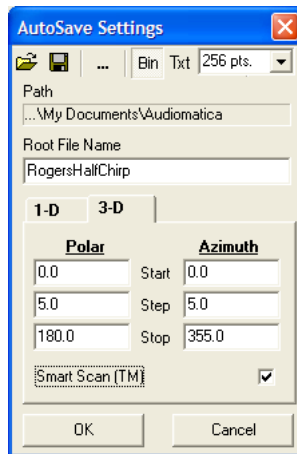

Figure 12.15
Let's start with setting the autosave function (see also 5.3). Pressing **Alt-F2** we recall the Autosave Setting dialog (fig.12.15); here we choose the 3D mode and input the desired filename ('RogersHalfChirp'), polar start (-180), polar step (5), polar stop (180), azimuth start (0), azimuth step (0) and azimuth stop (0).